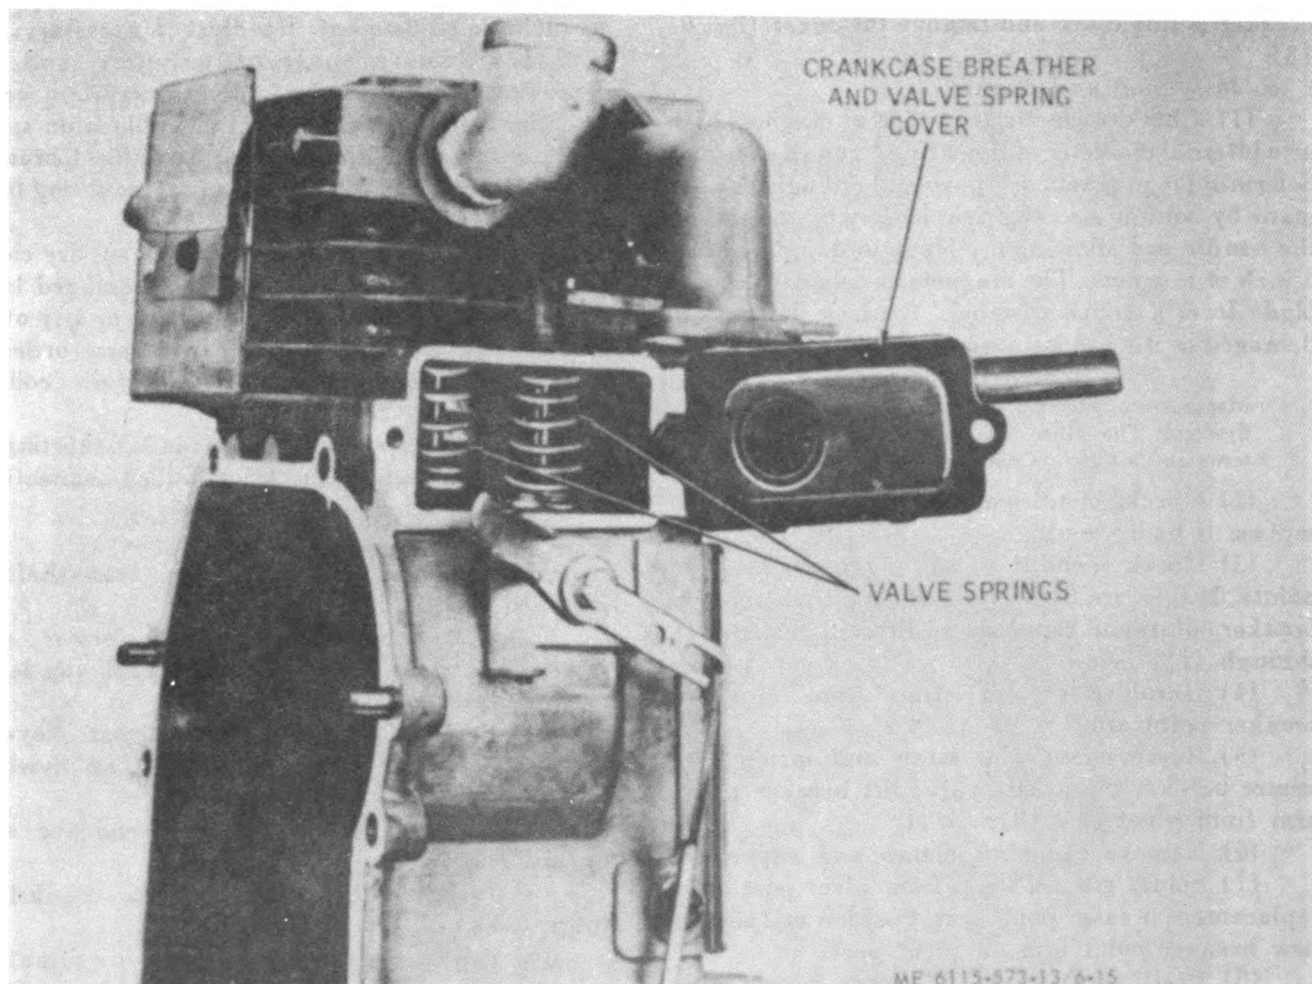

Figure 6-15. Partial disassembly of engine showing access to valve springs.
a. Remove valve cover and crankcase breather (fig. 6-15).